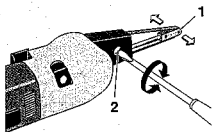

Fig. 5
3. Turn adjusting screw 2 (Fig. 5) to left or right until the belt runs in the centre of the tensioning roller (1).